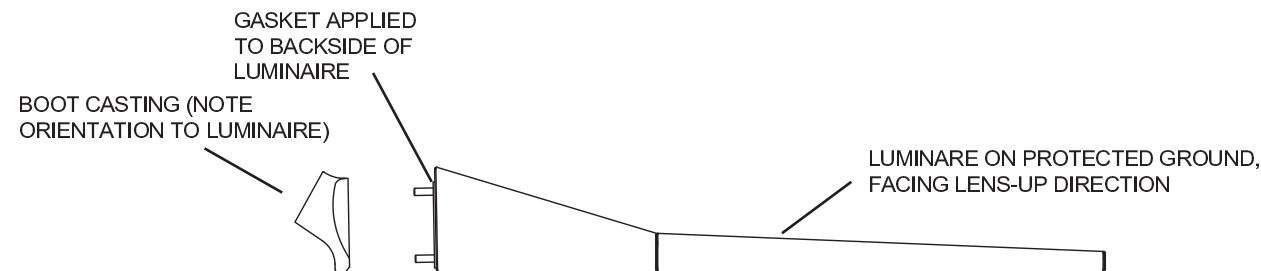

Figure 6
1. With the other boot casting in hand, round portion facing upward, peel backing off gasket and line up with holes in casting. Feed fixture pigtail wires through center hole of boot casting. Slide boot casting over 2 studs from fixture arm. Secure boot casting to fixture with flanged nuts. Note: You will need to insert a flanged nut onto the 3/4" socket, onto the 6" socket extension, to reach the top stud inside boot casting. Thread a 3/8" bolt into threaded hole on top of boot casting, so that 7-10 threads are still showing. See Fig. 6. Repeat for each fixture.